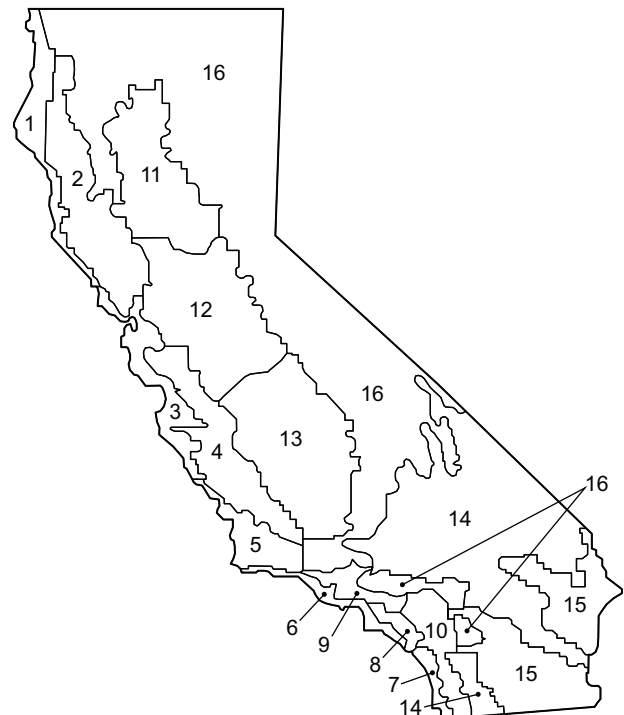

Fig. 72 – California Title 24 Zones
b. See Fig. 72 for map of California Title 24 zones.